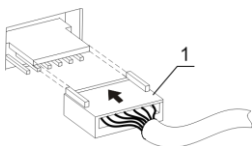

Fig. 1. Thermoblock connection
- Choose the thermoblock, connect the plug to the contact terminal according to the scheme on fig. 1/1 on the underside of the thermoblock. Make sure that the connector is mounted tightly.
- Lift the block without damaging the cable and disconnect the plug (fig. 1/1).